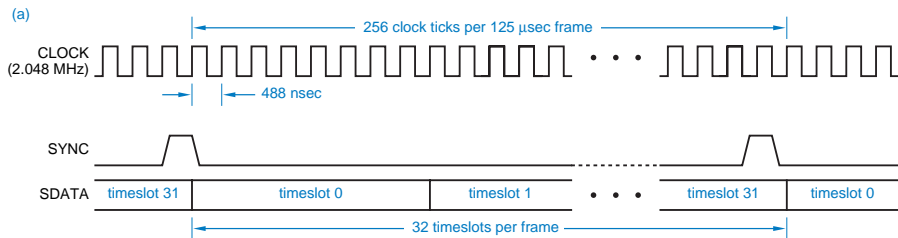
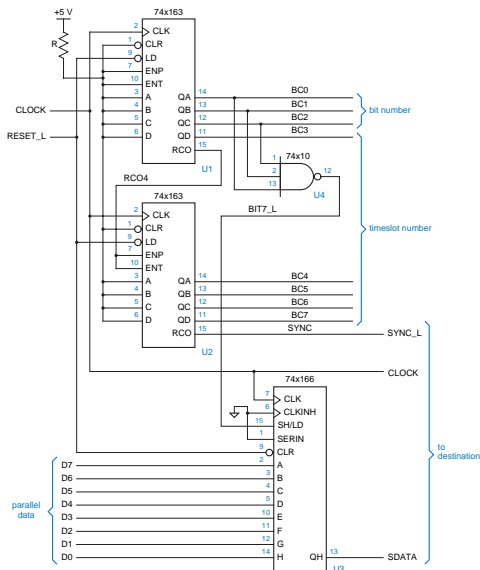
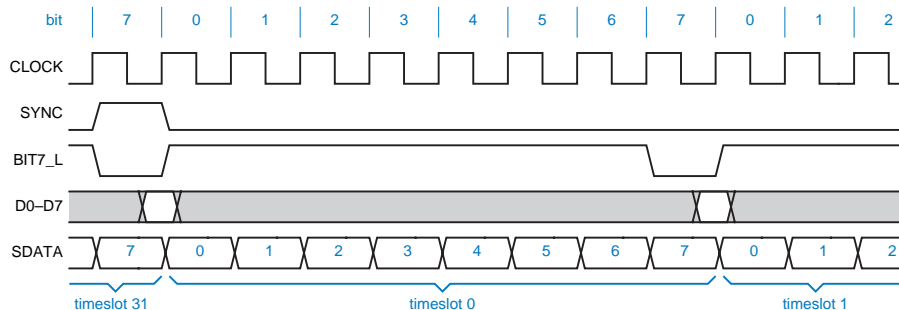

Figure 8: Timing diagram for parallel-to-serial conversion: a complete frame.
Figure 9: Parallel-to-serial conversion using a parallel-in shift register.
Figure 10: Timing diagram for parallel-to-serial conversion: one byte at the beginning of the frame.
- General timing characteristics in a typical digital telephony application are shown in Fig. 8
- Fig. 9 shows a circuit that converts parallel data to serial format of Fig. 8, with detailed timing shown in Fig. 10
- Figs. 9 and 10